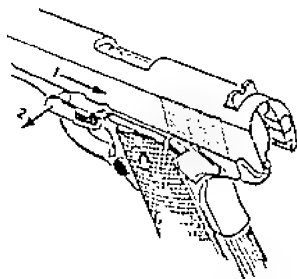

FIGURE 7- REMOVING SLIDE STOP
5. Pull slide to rear until lug on slide stop is opposite disassembly notch (See Figure 7) and push rounded end of pin of slide stop (on right side of receiver) inward and through receiver to disengage slide stop from slide.
6. Lift out slidestop. (See Figure 7).